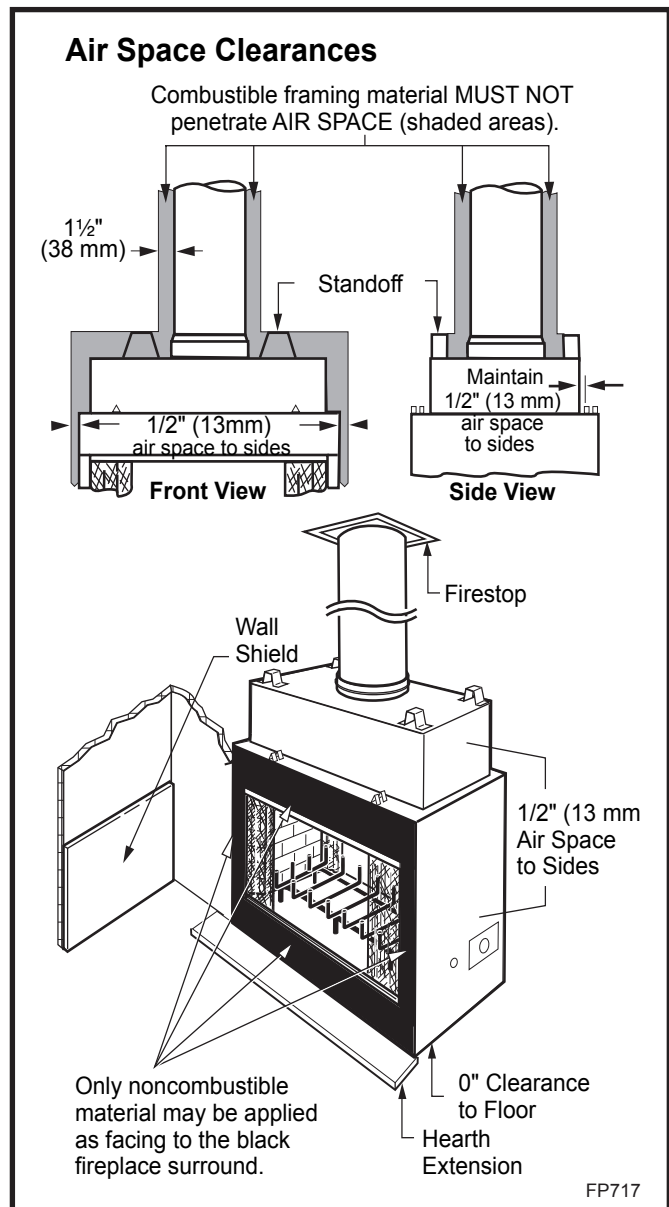

Fig. 20 Minimum clearances to combustibles.
There must be an air space ($1\frac{1}{2}"$ (38 mm) with SK8 between outermost portion of chimney sections and any adjacent combustible surfaces. (Fig. 20) (Combustible surfaces include burnable materials such as: ceiling members, joists, flooring, combustible insulation and roof structures.)
CAUTION: All joints between the finished wall and the fireplace surround (top/sides) must be sealed with non-combustible material to prevent cold air leakage into the room. Only noncombustible material may be applied to the facing of the fireplace surround. (Black painted area) (Fig. 20)
NOTE: No side wall protection is required for fireplaces installed at 45° to two (2) side walls (corner installation). Adjacent combustible side walls that are within 16" (406 mm) of fireplace opening must be protected with an MHSC Wall Shield Model SP40 or a specifically built wall shield described in Figure 20 & 24.
All joints (top, bottom and sides) where wall or decorative facing material meets fireplace surround must be completely sealed with a noncombustible material. (Figs. 20 and 24)
The special wall shield design described in Figure 20 is an alternate method of adding protection to side walls and can be used in place of the SP40 with the same wall clearances specified for the SP40. Rt must =1.85 minimum.